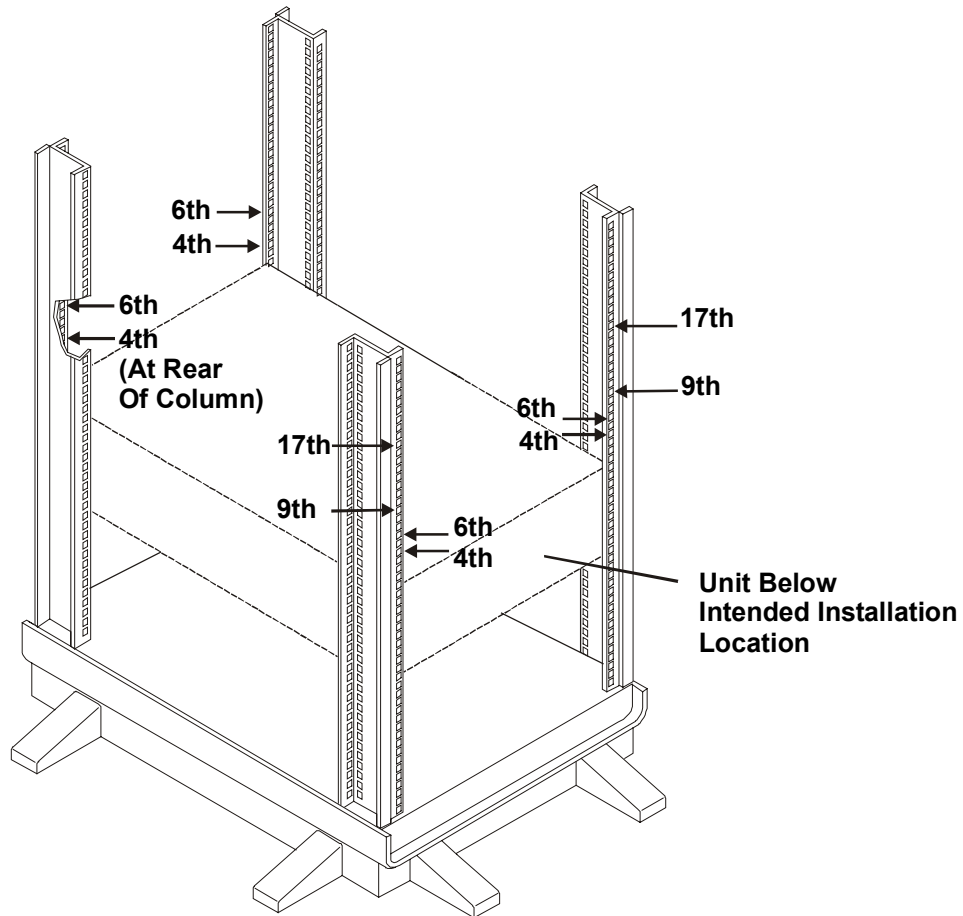

Figure 3-1. Marking Holes for Installation
Use tape or a marker pen to mark the appropriate holes on each column. When marking the holes, mark the outer surface of the column (see Figure 3-1).
To mark the slide mounting holes, refer to Figure 3-1 and do the following:
4. To mark the HP NetServer-attachment holes on the front columns (refer to Figure 3-1), count up from the bottom of the installation location (which is the top of the unit below), marking the 9th, and 17th holes.